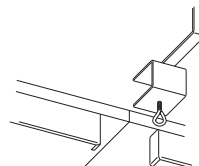

Figure 8
4. Attach net posts and net to table as shown in Figure 8.